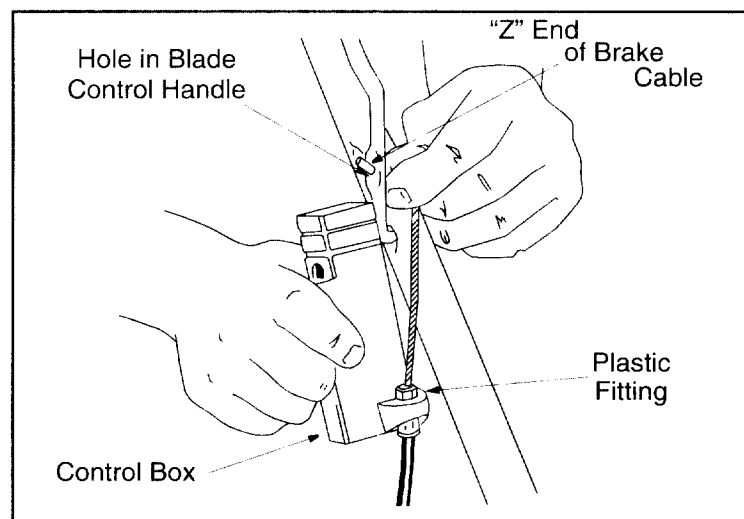
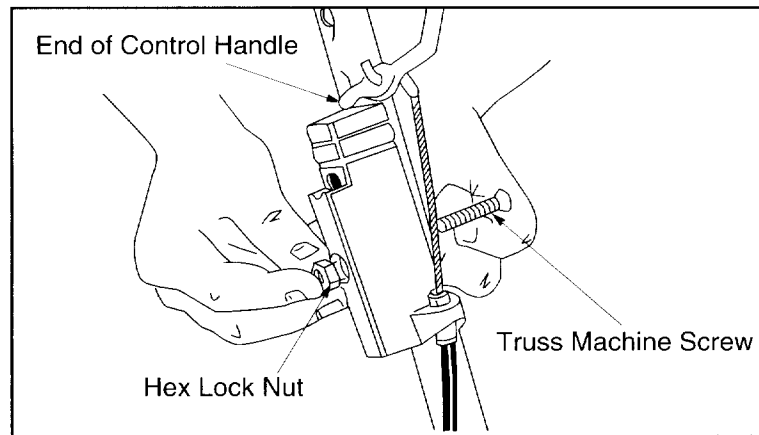

Figure 6
Figure 7
- Holding the control box near the left side of the upper handle (control box must be inside the handle), hook the “Z” end of the brake cable into the control handle from the **outside** to the **inside**. See Figure 6 and Figure 7.
- Place the control box on the upper handle just below (touching) the end of the control handle as shown in Figure 7. Secure with hardware removed in step one by placing hex lock nut into the indent on the inside of the control box. Screw the truss machine screw into the hex lock nut.